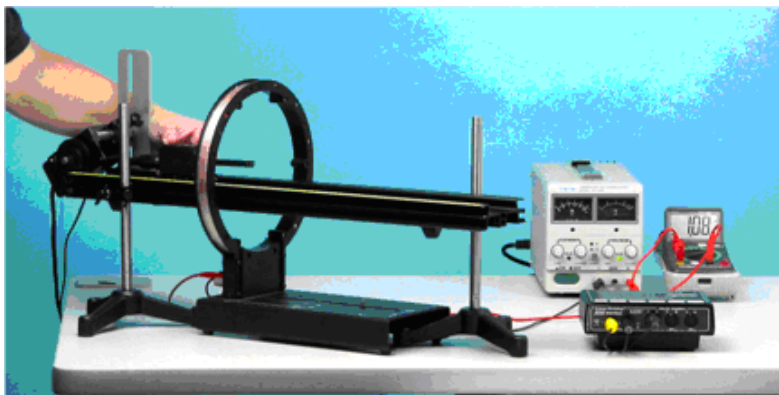

Figure 5: Single Coil Setup
1. Attach a single coil to the Helmholtz Base. Connect the DC power supply across the coil, i.e., between the two white jacks (NOT across the coil's internal resistor of 1.2 k Ω). To measure the current through the coil, connect the ammeter in series with the power supply and the coil. See Figure 5. The current should not exceed 2A.